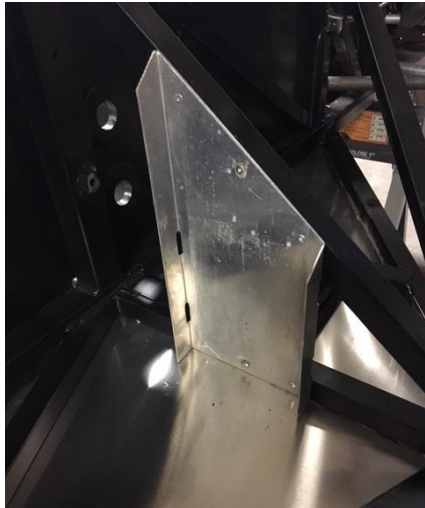

Figure 10 – New Coolant Catch Tank Location
1. Install on front of RH side pod about the same position of the 1.9 ECU mount with the supplied 1/8" rivets (Part # 1001835). (See Figure 10)